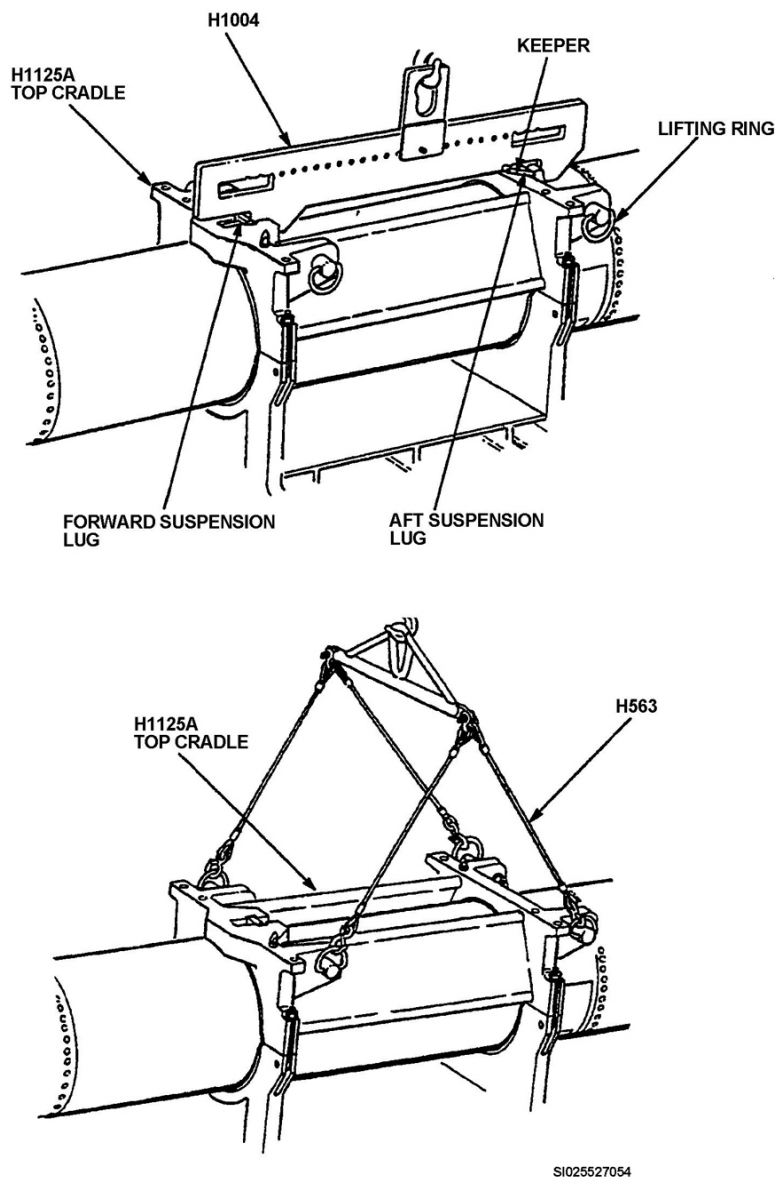

Figure 1-7. H1004 bomb-hoisting adapter and H563 sling.
You can use the H1004 bomb-hoisting adapter (fig. 1-7) to lift weapons in two ways: (1) lifting vehicle or (2) certified hoist. With a lifting vehicle, keep these two safety issues or concerns in mind:
The H563 beam-type sling (fig. 1-7) can also be used to hoist the B61 as follows. Attach the sling to swivel eyebolts (lifting rings) of the H1125A/H1671 top cradle. Check that the flat of each swivel eyebolt is positioned inside the hole of the cradle lug. Next, center the hoist over the H563 lifting eye and attach. Recheck to make sure the sling legs are securely attached to the H1125A/H1671 and slowly lift the bomb and relocate onto a suitable location. Finally, remove the H563.